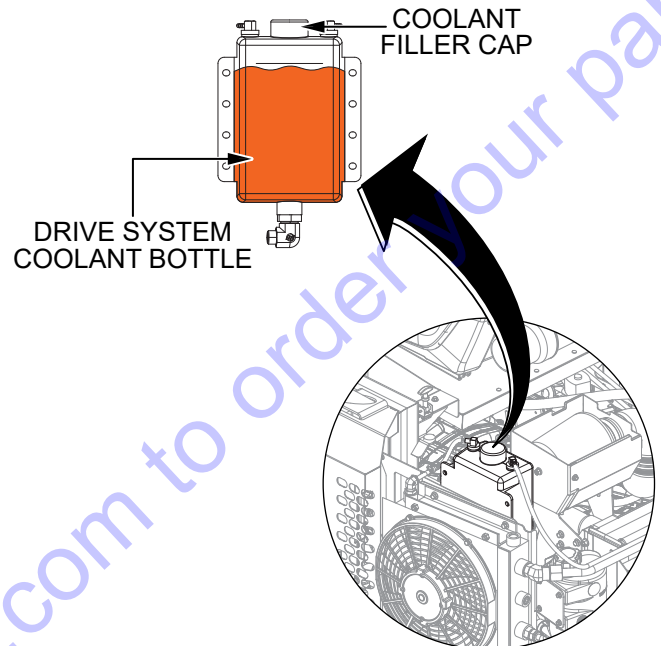

Figure 80. Drive System Coolant Bottle
5. Remove the coolant filler cap (Figure 80) and add coolant up to the upper limit line on the bottle. Use only prediluted 50/50 coolant which meets the requirements of GM Dex-Cool specification GM6277M. Replace the cap when finished.